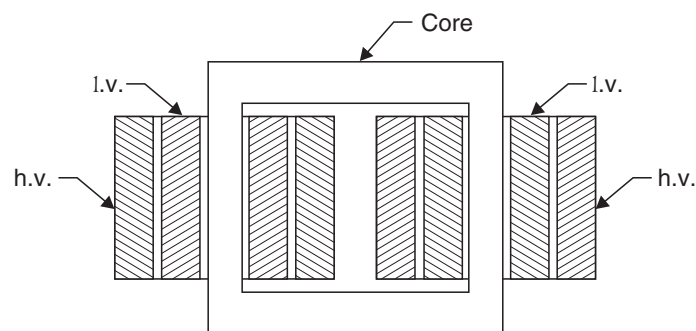

Fig. 10. Concentric coils.
1. Concentric windings. Refer Fig. 10. These windings are used for core type transformers. Each limb is wound with a group of coils consisting of both primary and secondary turns which may be concentric cylinders. The l.v. winding is placed next to the core and h.v. winding on the outside. But the two windings can be sub-divided, and interlaced with high tension and low tension section alternately to reduce leakage reactance. These windings can be further divided as follows :